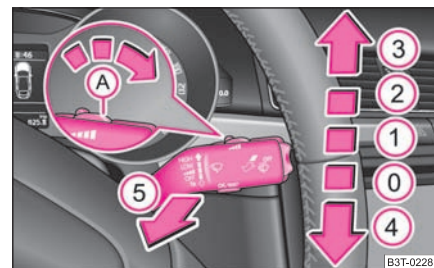

Fig. 58 Windscreen wiper lever
The windscreen wiper lever ⇒ fig. 58 has the following positions:
- If the slower **2** or the faster **3** wiper setting is switched on ⇒ page 65, fig. 58 and the vehicle speed decreases to below 4 km/h, the lower wiper step is switched on automatically. At a speed increase of more than 8 km/h the previous wiper setting is established again. ▶
The headlights are being cleaned after the windscreen has been sprayed for the first time and fifth time, the low beam or main beam are switched on and the windscreen wiper lever was held in the position ⑤ ⇒ page 65, fig. 58 for about 1 second.
- Then press the windscreen wiper lever in the position ④ ⇒ page 65, fig. 58 within 10 seconds - the wiper arms move into the service position.